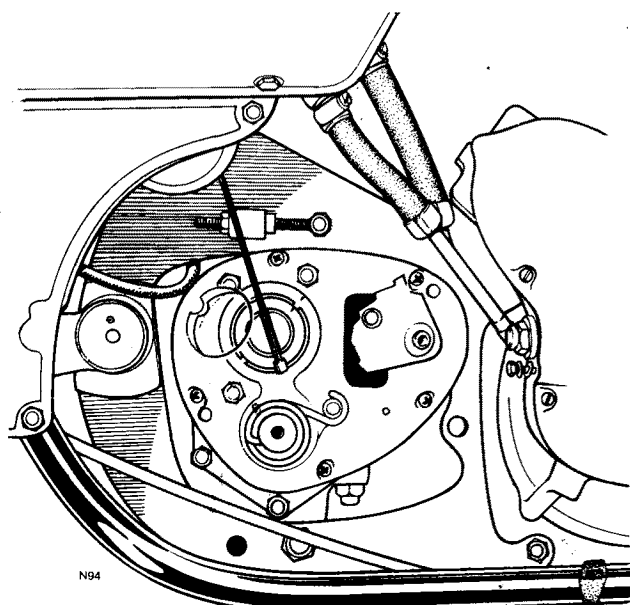

Fig. D6 Kickstart spring located. Note alignment of clutch body to permit straight pull on clutch cable and operating lever.
- 3 Assemble the kickstart return spring, aligning the outboard end of the spring with the mating hole in the spindle and sliding the spring down until the spring engages in the hole. Wind the spring as illustrated in Fig. D6 to tension and engage on the spring anchor pin.
- 10 Tighten the operating lever body ring until the body is fully engaged and finally tighten the lock ring to bring the body slot directly into line with the marks previously applied to the boss in the cover. Fig. D6 illustrates the alignment procedure during tightening of the lock ring. If a new cover is being fitted and no alignment marks are present, hold the body in the position where the clutch cable can exert a straight pull, as the lockring is tightened.